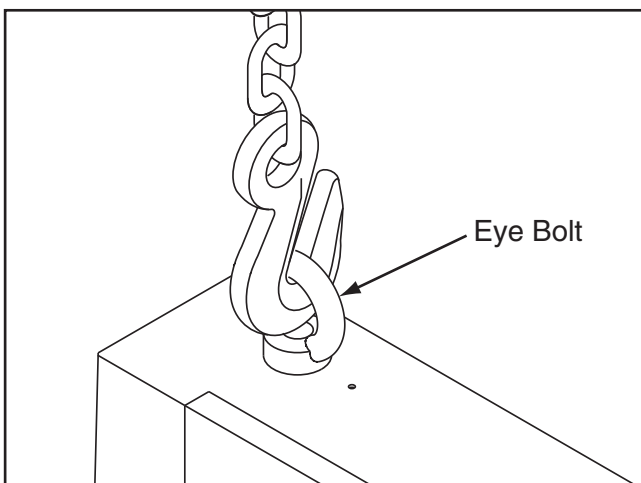

Figure 5. Lifting the bandsaw.
3. Place the lifting hook through the eye bolt (see **Figure 5**) that is located on top of the machine.